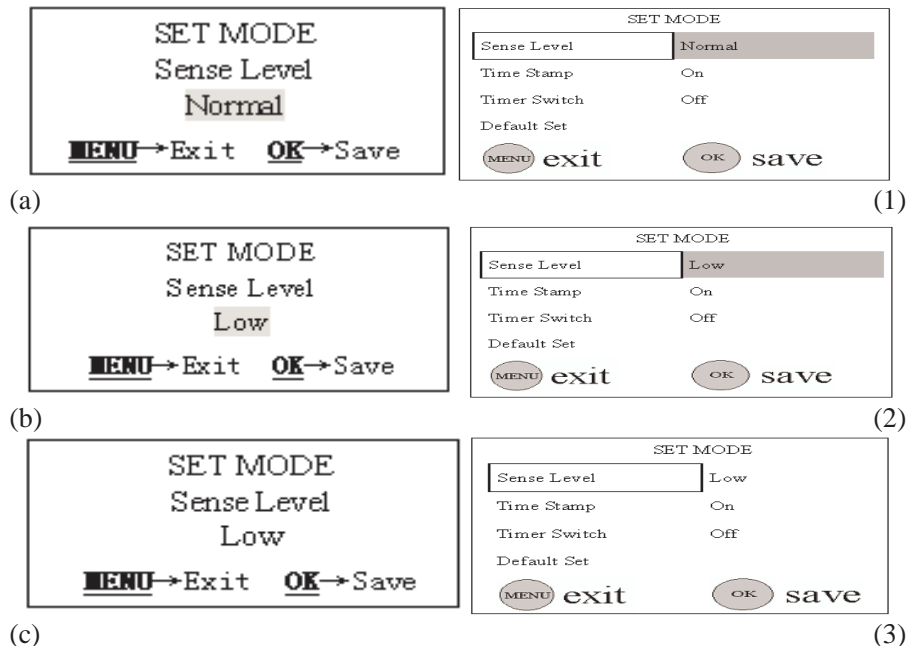

Figure 13: Setting PIR sensitivity
- 1 In Menu, press the UP or DOWN key until “Sensor Level” appears, as shown in Fig. 13(a) and 13(1).
- 2 Press the RIGHT key until the desired value appears, as shown in Fig. 13(b) and 13(2).
- 3 Press the OK key to save or press the MENU key to cancel and exit. After pressing the OK key, the selected value will no longer be highlighted, as shown in Fig. 13(c) and 13(3).